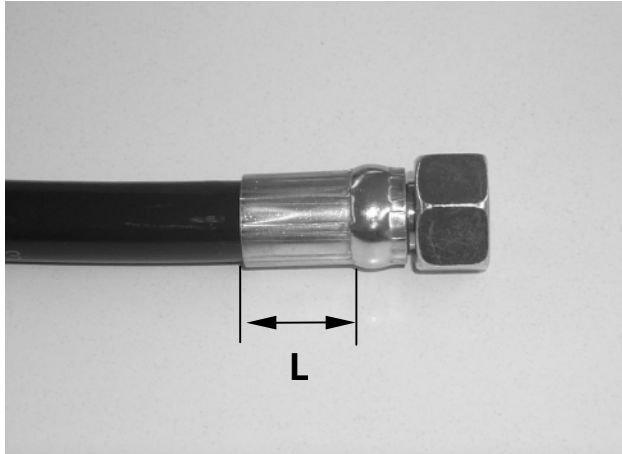

Figure 2: Fitting crimp length L should be at least 0.944 inch
1. the crimp length of the affected hose fittings, which should be at least 0.944 inch (24 mm) as indicated in Figure 2.